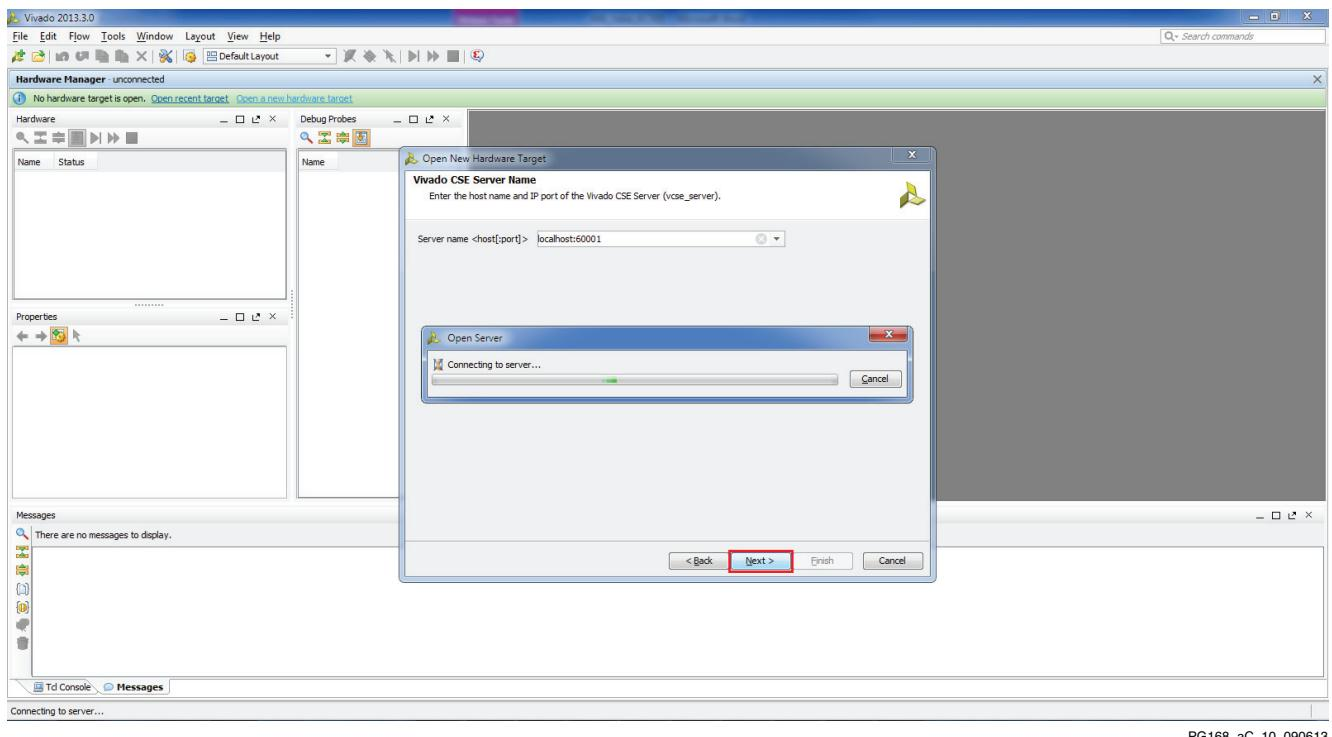

Figure C-10: Vivado CSE Server Name
14. Enter the server name to which the KC705 board is connected in **Vivado CSE Server Name**, as shown in Figure C-10, and click **Next**. The Vivado IDE automatically connects to the server and detects all boards connected to the server.